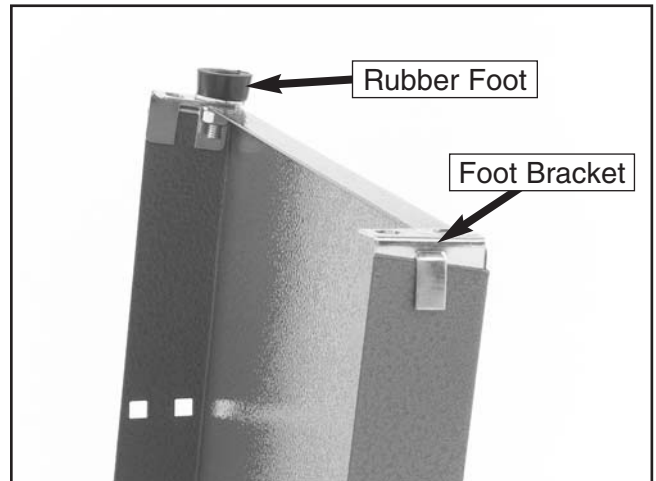

Figure 8. Rubber foot and foot brackets.
2. Place the (4) feet brackets on the stand corners where the rubber feet will be installed.
3. Insert the (4) M6-1 x 20 hex bolts into the rubber feet and attach the feet to the stand corners as shown in **Figure 8**.